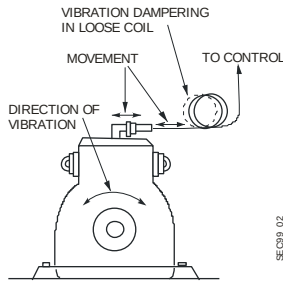

Figure 2: SEC99 Dampered Loose Coil Arrangement
- Often damaging vibration can be damped in a loose coil arrangement. See Figure 2.